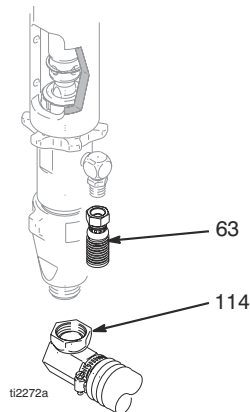

FIG. 7
1. Fig. 7. Remove suction tube (114) and paint hose (63) (remove at swivel end).